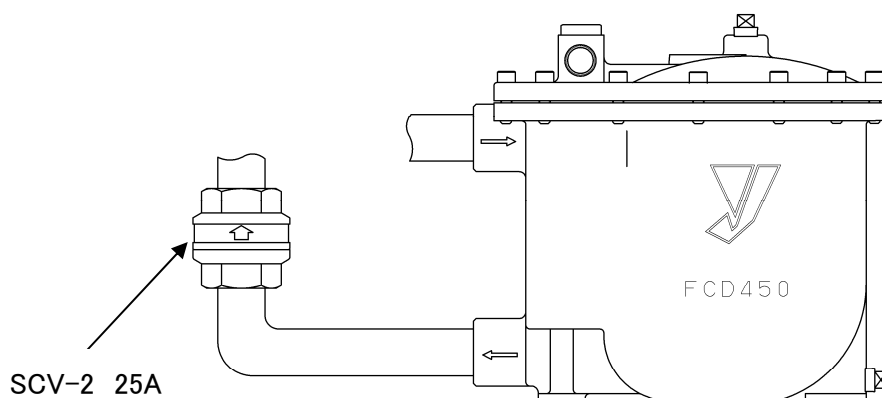

Fig. 8 (Example)
- (4) Connect pipes securely.
- (5) Please use the union joint for the connection of piping. (Refer to 7.1 Example of piping diagram.)
- (6) Do not apply any shocks by the water hammer or the like. Do not use the on-off valve before or after the product.
- (7) Do not disassemble the product.
- (8) Attach the strainer before the condensate inlet and driving steam port. (Refer to 7.1 Example of piping diagram.)
- (9) Attach the check valve (SCV-2 or SCV-3 25A) to keep the discharge capacity at the condensate outlet side. Note the direction of the check valve. (See Fig. 8.)